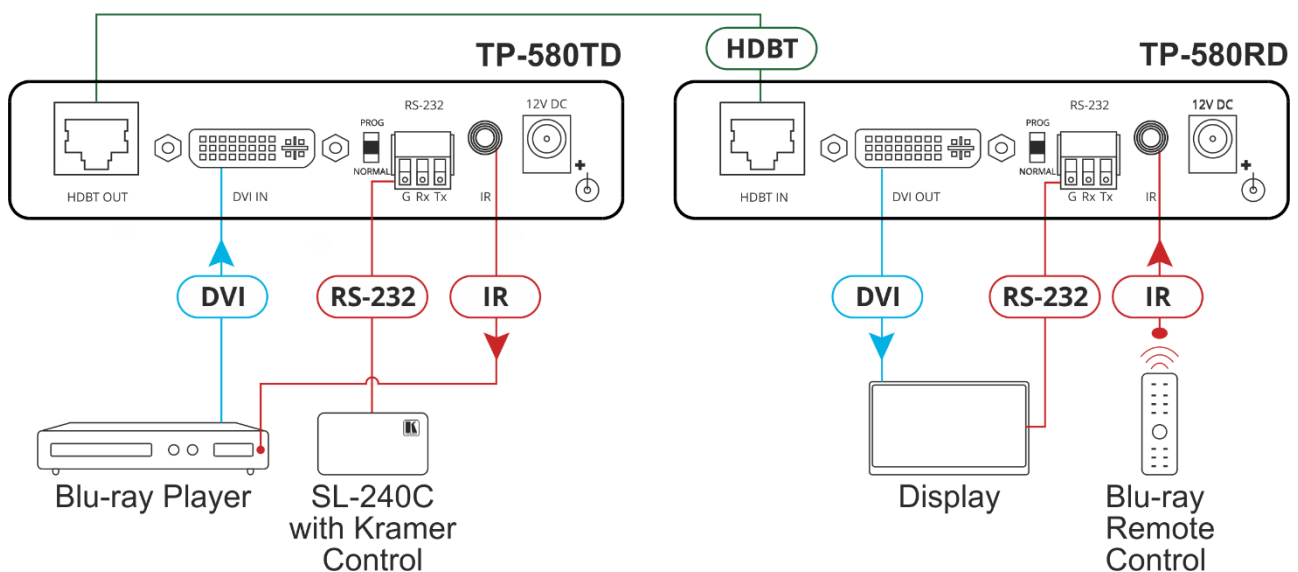

Figure 3: Connecting the TP-580TD, TP-580RD DVI Line Transmitter / Receiver
You can use the **TP-580TD DVI Line Transmitter** and the **TP-580RD DVI Line Receiver** to configure an DVI transmitter/receiver system, as shown in the example in Figure 3.
7. Connect the supplied power adapters to the power sockets of the **TP-580TD** and **TP-580RD**, and plug the adapters into the mains electricity (not shown in Figure 3).
The example in Figure 3 illustrates how to control a Blu-ray player that is connected to the **TP-580TD** using a remote control located on the **TP-580RD** side. An IR sensor is connected to the **TP-580RD** and an IR emitter is connected between the **TP-580TD** and the Blu-ray player. The Blu-ray remote control sends a command while pointed at the external IR sensor. The IR signal is passed over the HDBT link and the IR emitter connected to the Blu-ray player responds to the command sent.